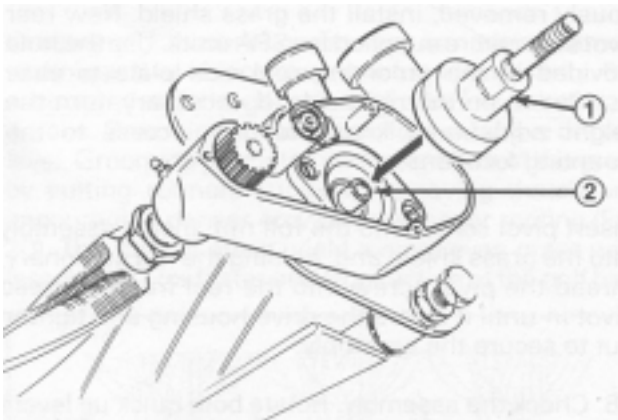

Figure 14
- C. Apply Loctite RC 680 (supplied with kit) to outside of left reel shaft extension. **DO NOT APPLY LOCTITE TO THREADED AREAS.** Thread clutch assembly onto left reel shaft extension (Fig. 14). Secure the reel from turning with a block of wood and torque the clutch adapter to 17 ft-lb.